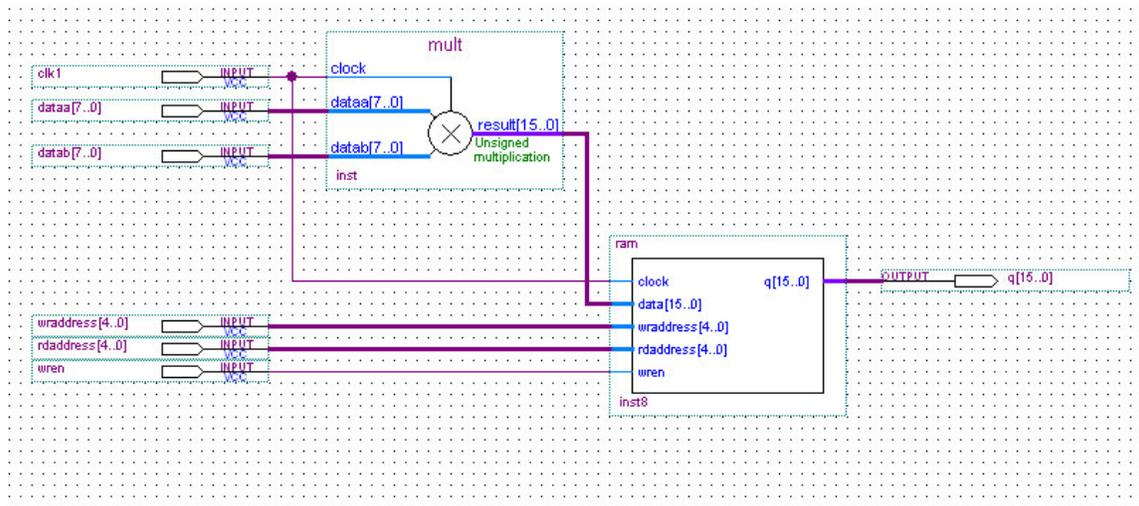

Figure 1
*We will now create the design shown in Figure 1.*
2. Connect all of the pins and blocks as shown in **Figure 1**.